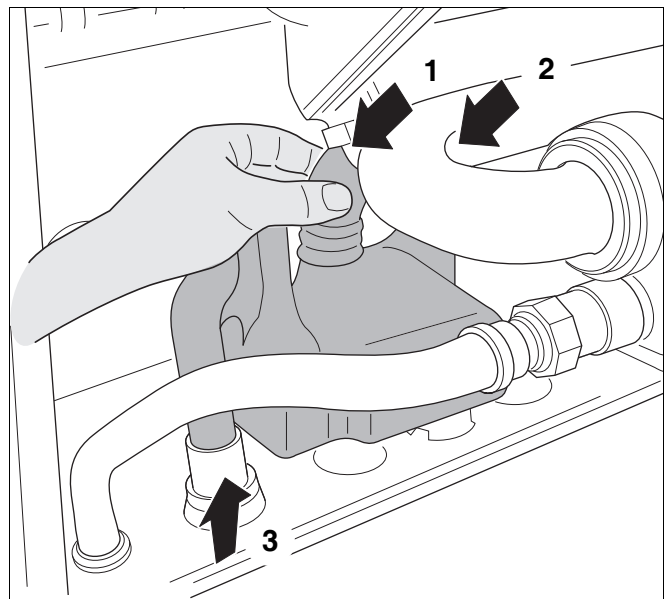

fig. 82 Disconnecting the condensate trap connection
- Pull the condensate trap from the condensate plate (see fig. 82, pos. 1).
- Pull the internal condensate bypass pipe from the condensate trap (see fig. 82, pos. 2).
- Loosen the condensate trap from the connection (see fig. 82, pos. 3) and remove it.